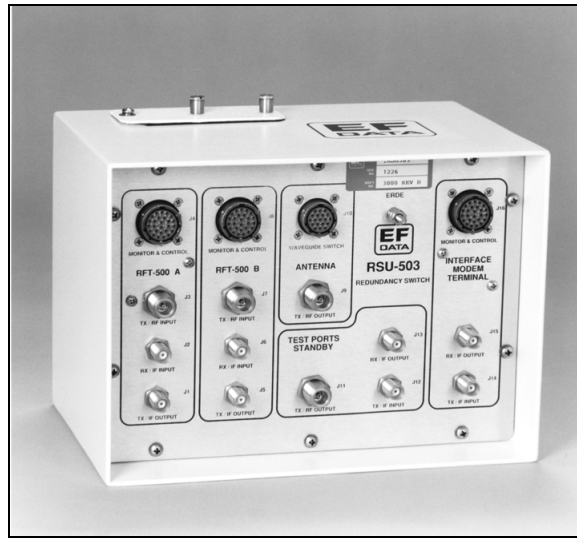

Figure 1-3. RSU-503
| Figure 1-3. RSU-503 | 1-3 |
- RSU-503 (Figure 1-3)